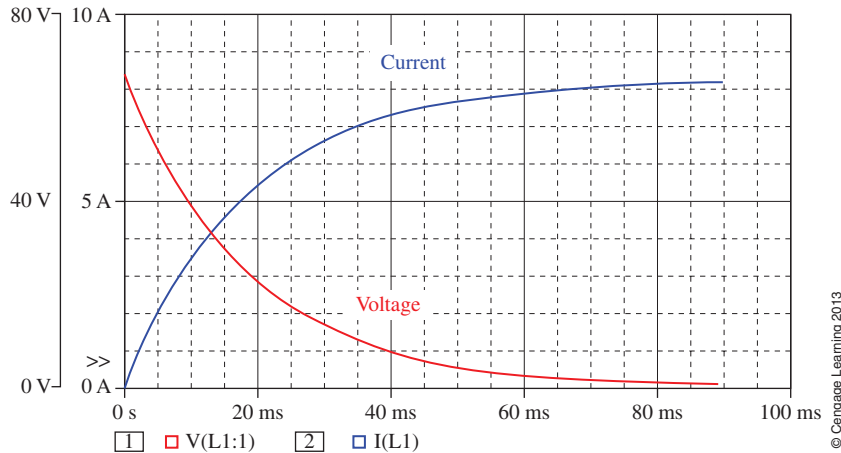

FIGURE 14-34 Inductor voltage and current for the circuit of Figure 14-33.
- Click the *Run* icon. When simulation is complete, you should have the voltage curve of Figure 14-34 on your screen.